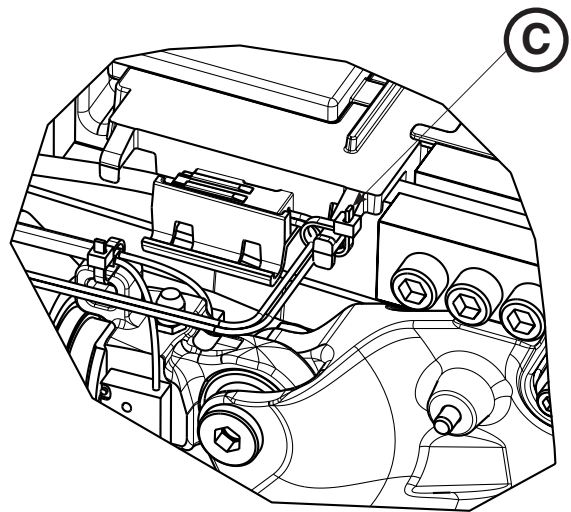

Figure 74
5. Using diagonal pliers, cut the cable ties (C) that secure the hydraulic cylinder rod end assembly cable to the plastic cover (Figure 74).